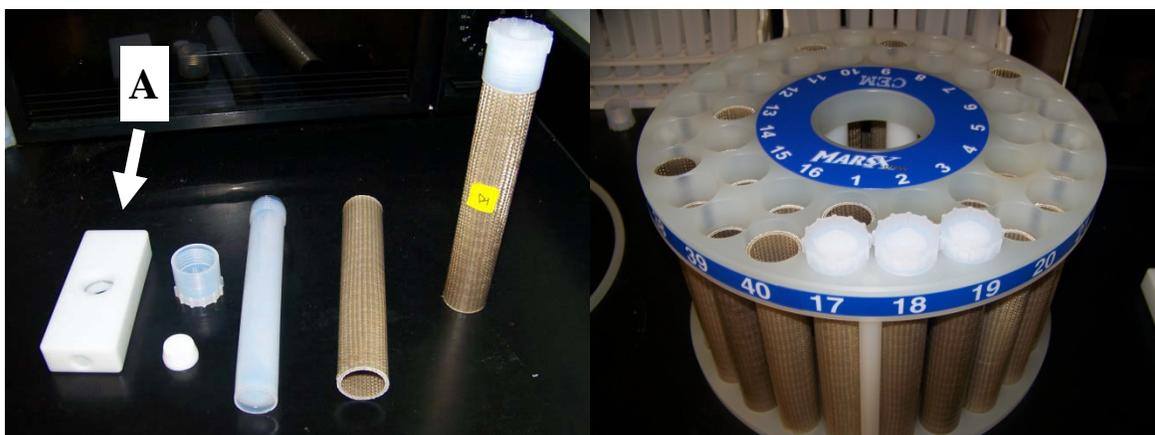

Figure 1. Microwave carousel and vessels. The lid torque tool is labeled A.
1. Accurately weigh three 1.0 to 1.2-g samples of the dried unknown into clean, dry Teflon PFA microwave vessels (Figure 1). Add 8 mL of concentrated nitric acid and 3.5 mL hydrochloric acid (in the hood). Immediately after adding the acids, close the vessels, using the lid torque tool to ensure that the lids are closed appropriately.